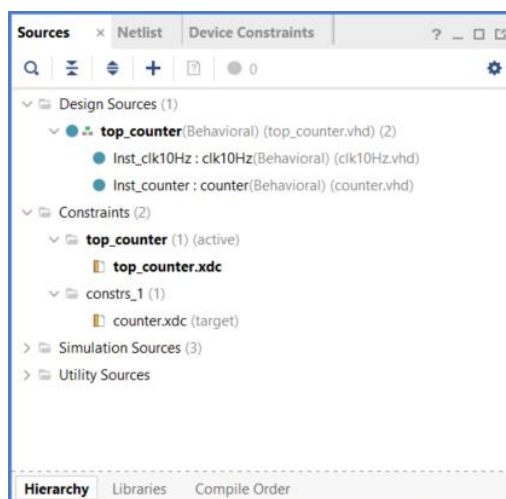

Figure 45
14. The new, and active, constraint set **top_counter** containing the new constraint file **top_counter.xdc** is added to the hierarchy of our design in the project **Sources** window (Figure 45)